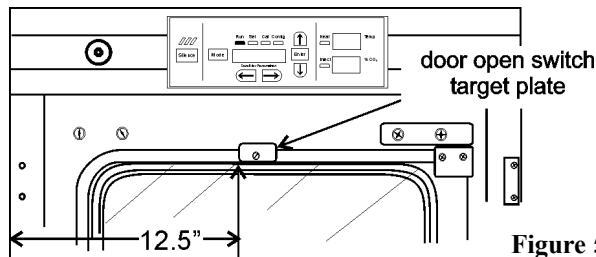

Figure 5-7
18. Install the door open switch target plate, Item 10. Refer to Figure 5-7. The plate must be positioned exactly 12.5 inches from the outside edge of the cabinet to the leading edge of the plate. Do not overtighten.